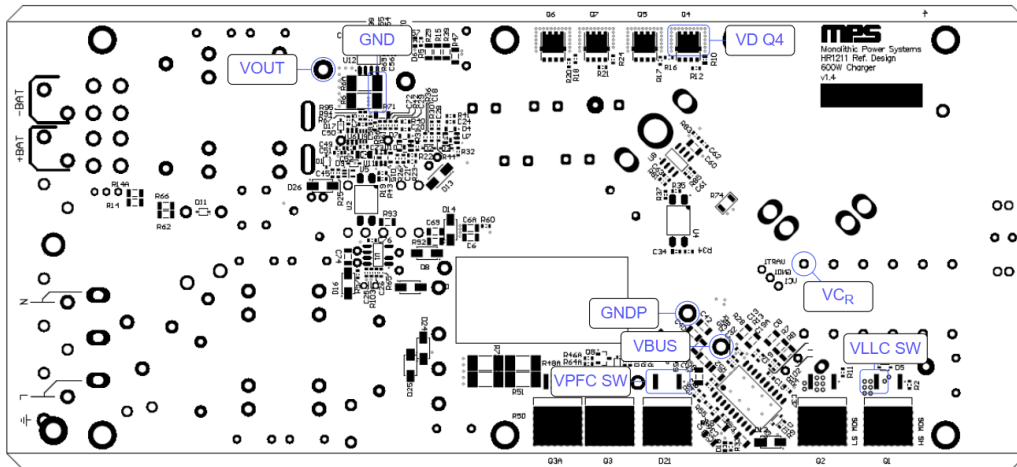

Figure 22: Signal Diagram
1. Connect the equipment (see Figure 22). The battery can be replaced with an electronic load.
2. Set the electronic load to either constant current (CC) or constant voltage (CV) mode.
Figure 22 and Table 8 show how to properly measure the signal to test charger performance.